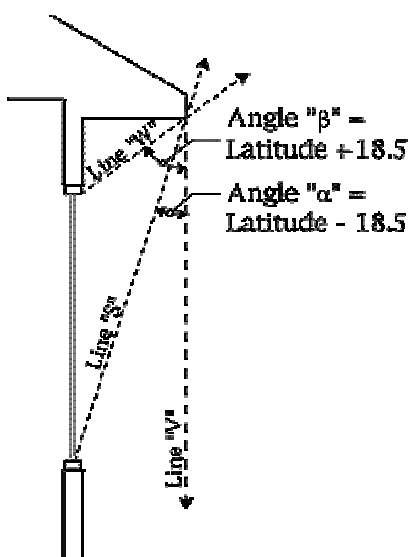

Figure 5. Sizing Overhangs.
1. To prevent summer gains, the angle " $\alpha$ " between a line "S" from the edge of the overhang to the bottom of the window and a vertical line "V" should be approximately equal to the latitude minus 18.5 degrees. (See Figure 5)